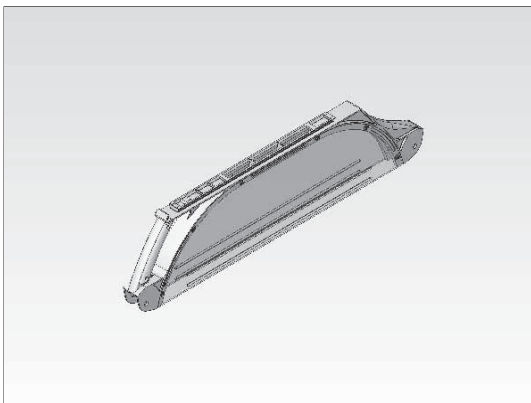

Fig.1
- At 90° cutting, 90° special safety guard must be used as Fig. 1.